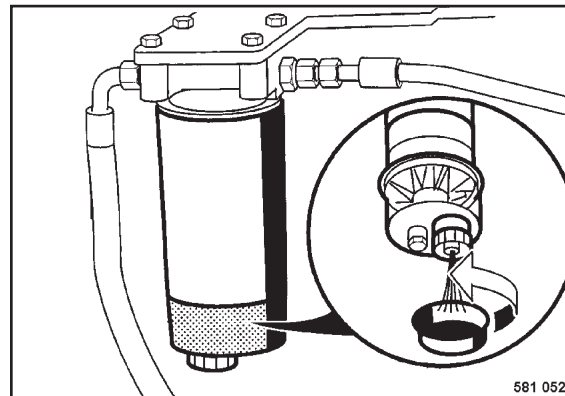

Fig. 95
- Slacken the drain plug (Fig. 95) for a few turns and catch running out fuel / water. Drain the filter sump until clear fuel is visible.